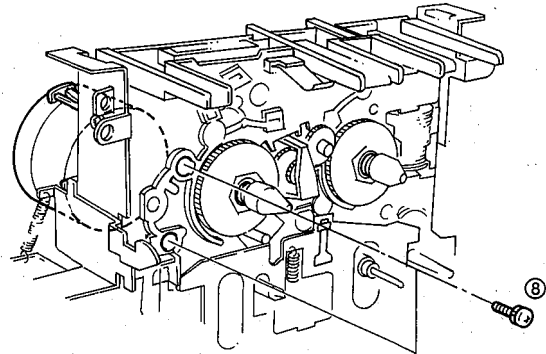

Fig. 8
- a. Remove 2 screws (⑧) in fig. 8 and then remove the motor.